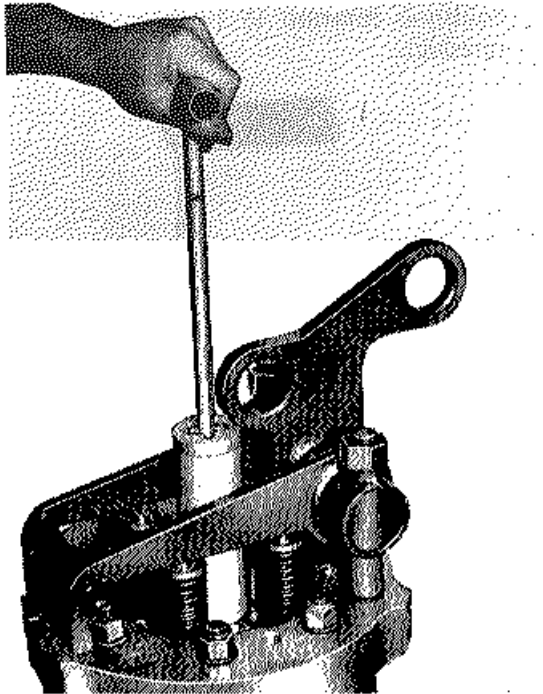

Fig. 5-5 - Piston Holding Tool²²¹¹¹
20. Place a piston holding tool, Fig. 5-5, in the injector well on the opposite cylinder, opposite bank of the engine and thread the rod into the piston pulling eyebolt hole in the crown of the piston.
44. Lift the piston and blade rod assembly so that the piston holding tool, Fig. 5-5, can be positioned to hold the piston and rod at the top of the liner. The upper bearing shell should be removed as the piston and blade rod assembly is being raised.
25. Screw the piston holding tool, Fig. 5-5, into the threaded hole in the crown of the piston and fork rod assembly.